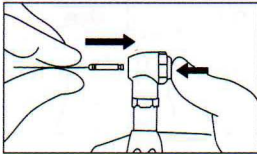

Fig.1
① Engine file
- To mount file or reamer while pressing the push button, align shapes of the back end of file and the hole of the head shaft and insert file all the way, and then stop pressing the button (Fig.1)